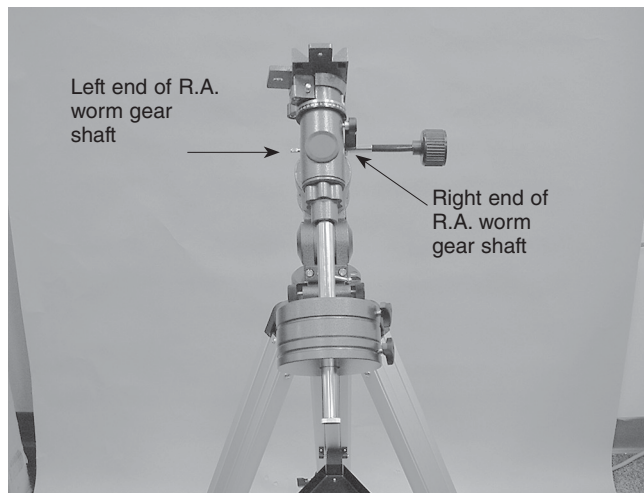

Figure 1: The R.A. slow motion control cable needs to be mounted on the right end of the R.A. worm gear shaft.
1. When facing the front of the mount, the R.A. slow-motion control cable should be mounted to the right end of the R.A. worm gear shaft (**Figure 1**). If it is mounted on the left end, remove it, and reinstall it on the right end of the shaft.